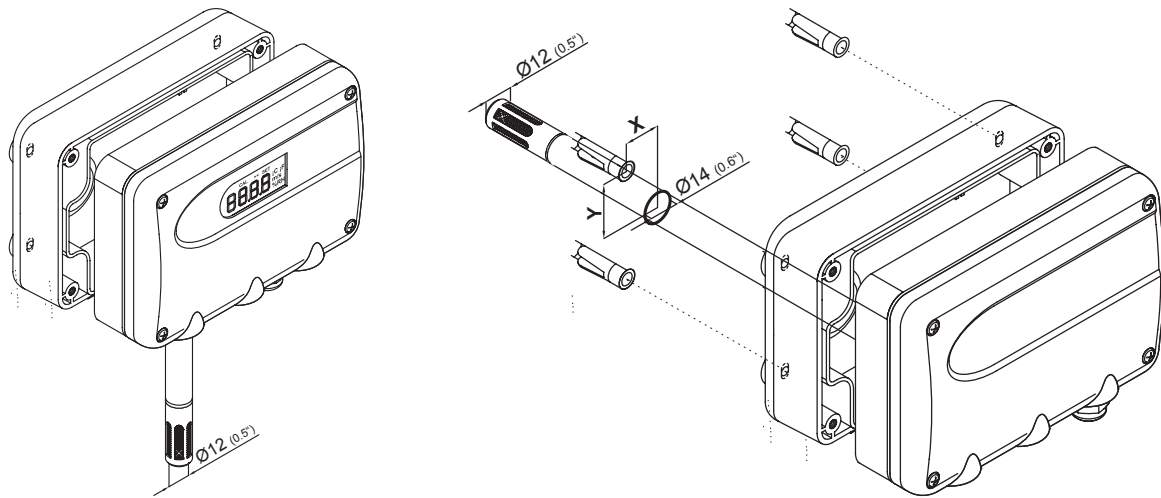

Fig. 7 T1 Wall mount
1. Only for model T2 (duct mounting). Drill the hole for inserting the probe into the duct wall, Fig. 7 on page 11. The relevant position of top left mounting screw of the back cover with respect to the probe center: